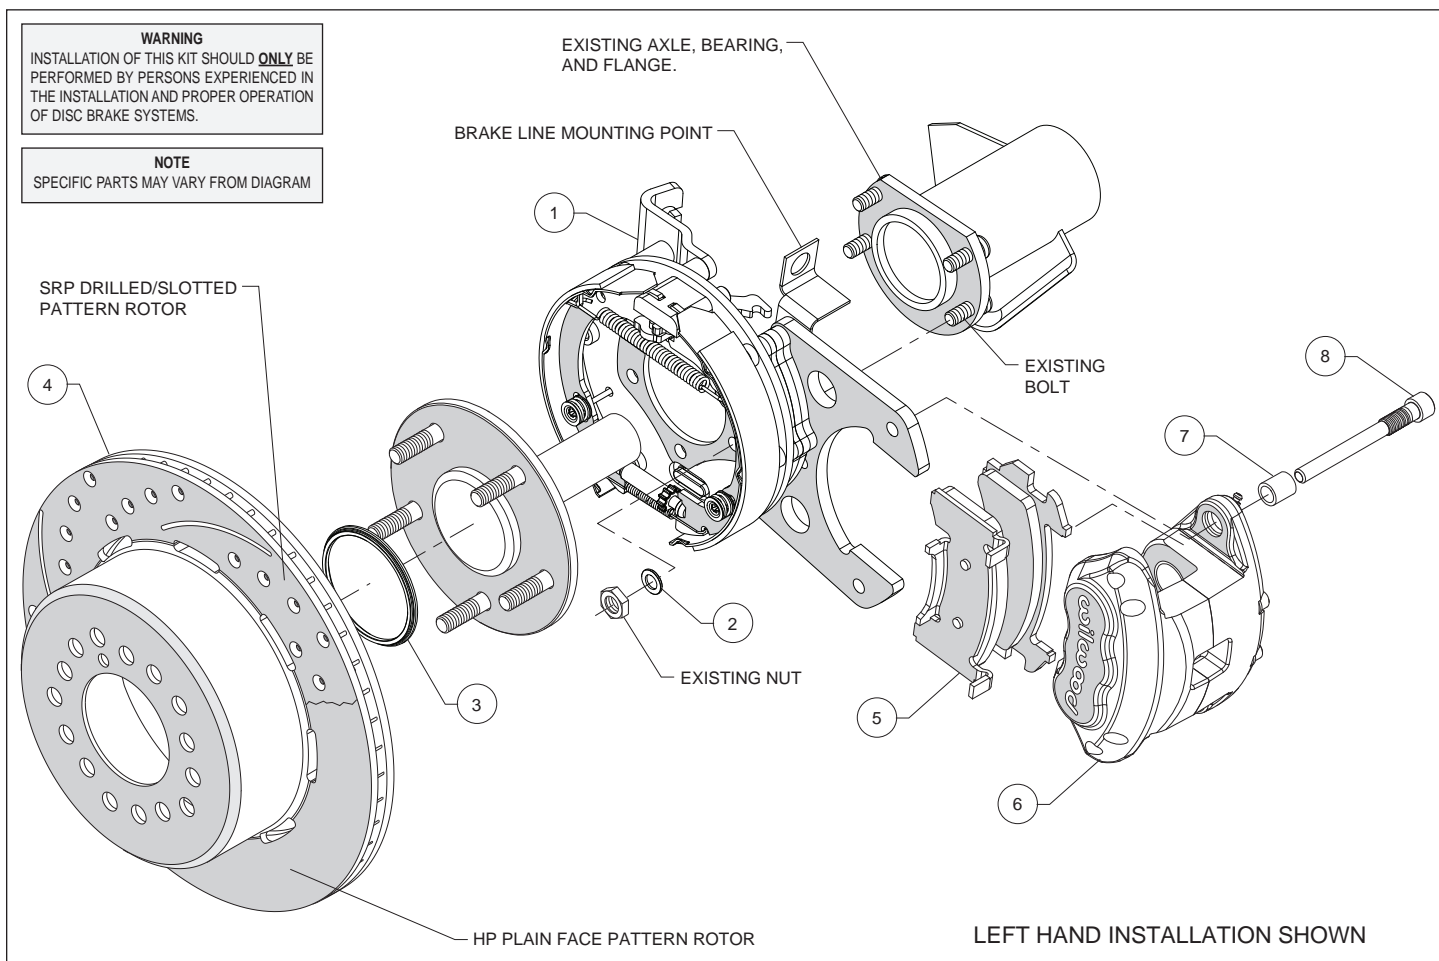

Figure 1. Typical Installation Configuration
**Assembly Instructions** (numbers in parenthesis refer to the parts list, and Figure 1 on the preceding pages): **CAUTION:** All mounting bolts must fully engage threaded holes.
- Orient the bracket assembly (1) as shown in Figure 1, and mount to the axle housing flange using the Original Equipment Manufacturer (OEM) bolts and nuts, while adding washer (2), Figure 1. Ensure that the bracket assembly backing plate fits flush against the axle housing flange. Apply red *Loctite*® 271 to the OEM bolt threads and torque to OEM specifications.
- Slide the rotor registration adapter (3) onto the axle register on the axle flange with the smaller O.D. facing toward the rotor/hat (4), Photo 1. Align the correct hole pattern in the rotor/hat with the stud pattern on the axle flange and slide into place, Figure 1 and Photo 2. **NOTE:** The rotor/hat must fit flush against the axle flange or excessive rotor run out may result. Install three lug nuts (finger tight) to keep the rotor/hat assembly in place while continuing with the installation. **NOTE:** Some OEM and after market axles come with stud sizes larger than 0.50" diameter. Verify stud size and have a qualified machine shop drill the bolt circle of the hat/rotor to the correct stud size, if necessary.
- Install the disc brake pads (5) into the caliper (6) with the friction material facing the rotor, as shown in Figure 1 and Photo 3.
- Install sleeves (7) onto slide pin bolts (8). Apply white lithium grease (available from your local auto parts store) to the slide pins/sleeves, as shown in Photo 4. **Do not apply to threads.** Mount the caliper (6) onto the mounting bracket (1) using slide pin bolts, as shown in Figure 1. Torque to 35 ft-lbs.
- **NOTE:** The caliper in this brake kit utilizes a 10mm x 1.50 thread inlet. This kit includes flexline kit P/N 220-12630. Brake fluid hard lines on the vehicle will need to be routed to the supplied line mounting point for the new brake kit, see Figure 1 and Photo 5. Hose kits include hoses, fittings, banjo bolts, etc. all in one package for use with this caliper. **Carefully route hoses to prevent contact with moving suspension, brake or wheel components.** **NOTE:** Wilwood hose kits are designed for use in many different vehicle applications and it is the installer's responsibility to properly route and ensure adequate clearance and retention for brake hose components.